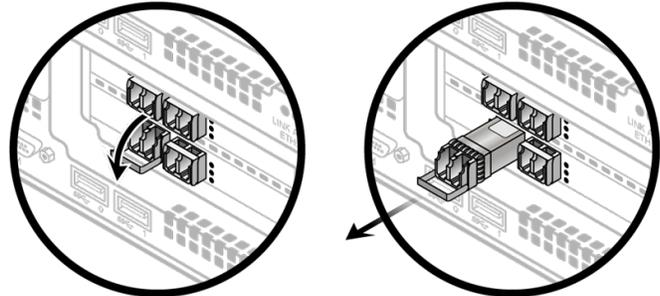

Figure 6-3. Removing Optical Transceivers
2. Remove the faulty optical transceiver from the PCIe card port. See Figure 6-3.